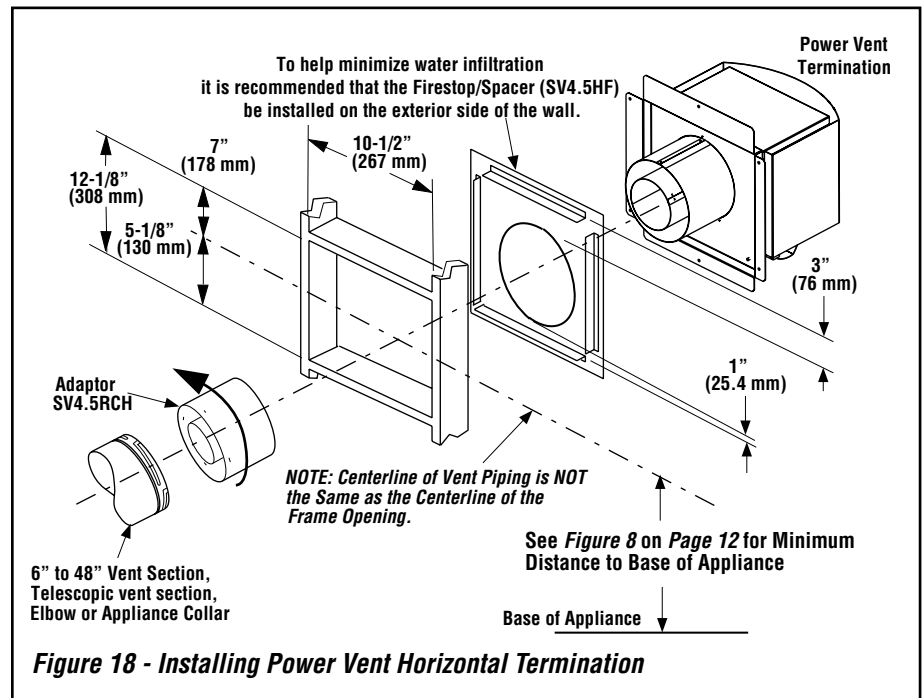

Figure 18 - Installing Power Vent Horizontal Termination
J. Assemble vent run to exterior wall - If not previously measured, locate the center of the vent on the exterior wall. Prepare an opening as described in this manual. Assemble the vent system to a point where the terminus of the last section is within 8" of the outside wall surface where the power vent is to be mounted (see **Figure 18 on Page 19**).
K. Attach termination adaptor - Attach the adaptor (SV4.5RCH - provided with the power vent kit) to the vent section telescoping vent section, or elbow, as shown in **Figures 18 and 19 on Page 17** in the same manner as any SV4.5 vent component.
Install SV4.5HF Firestop/Spacer, provided with the power vent kit, over the opening at the **exterior** side of the framing, long side up, with the 3" spacer clearance at the top as shown in **Figure 18**, and nail into place. The Firestop/Spacer may also be installed over the opening at the interior side of the framing. The gap between the vent pipe and a firestop can be sealed with noncombustible caulking.